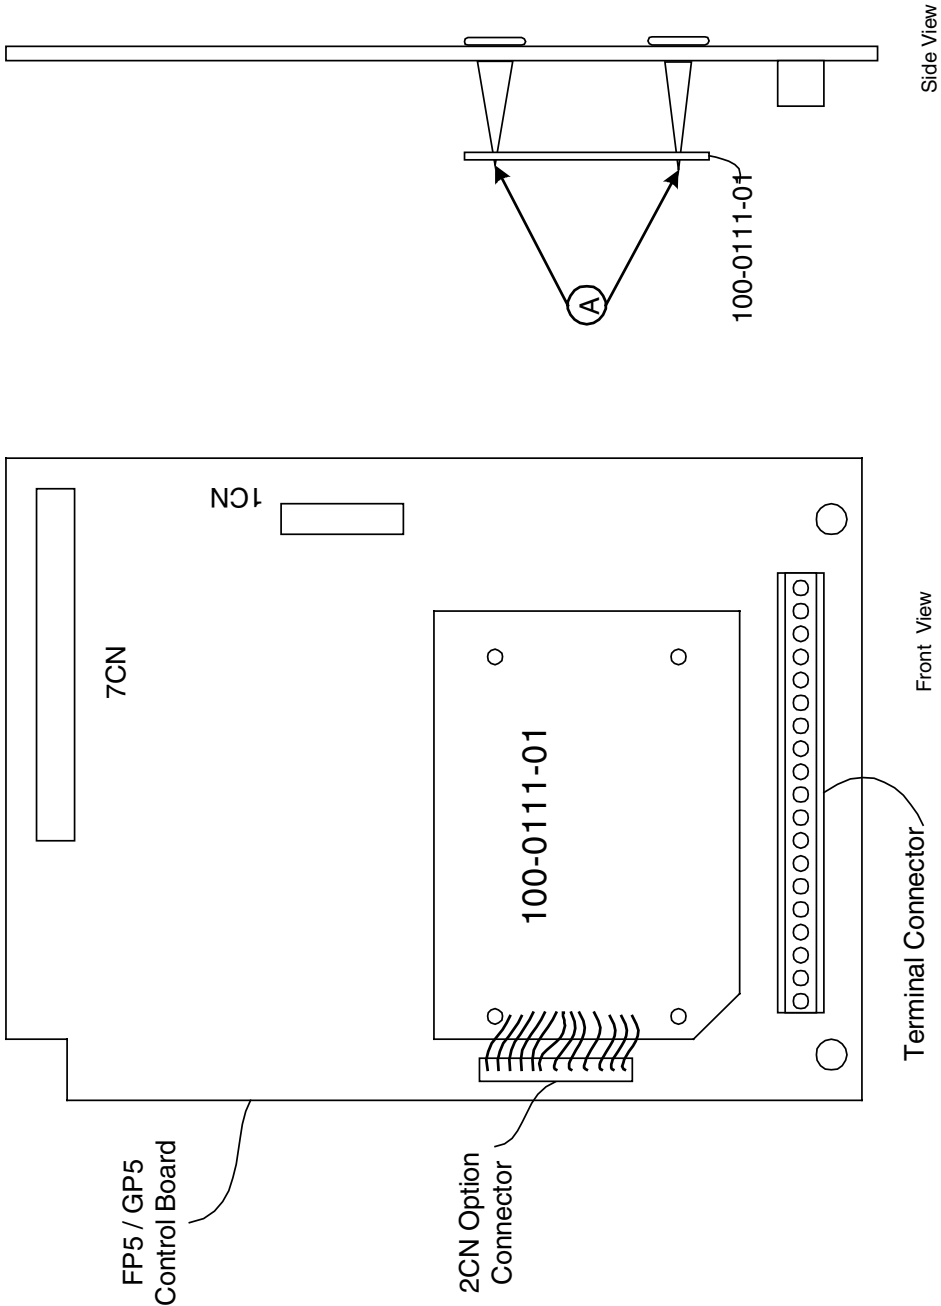

FIGURE 1 - INSTALLATION OF THE 100-0111-01 MINI-SMART CARD
Before attempting any installation make sure that all power is turned off to the equipment being worked on. Carefully remove the Digital Operator from the inverter and remove the cover in accordance with the instructions in the Inverter manual. Place the 100-0111-01 option card on the (4) plastic stand-offs **(A)** on the inverter control board and push down to seat (see fig. 1, page 4). Then connect the cable from the option card to 2CN of the control card.